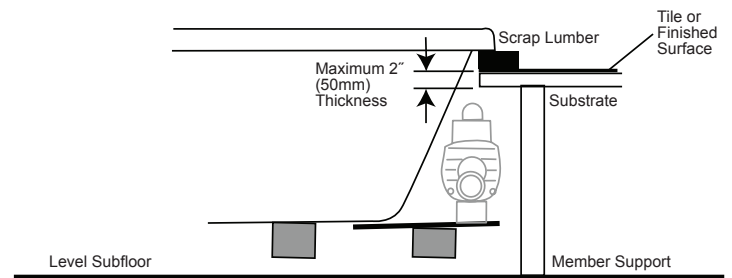

Figure 10
- 8** Install the unit, inserting the motor/pump end first, lowering the bathtub into the opening as shown in the illustration (Figure 10).